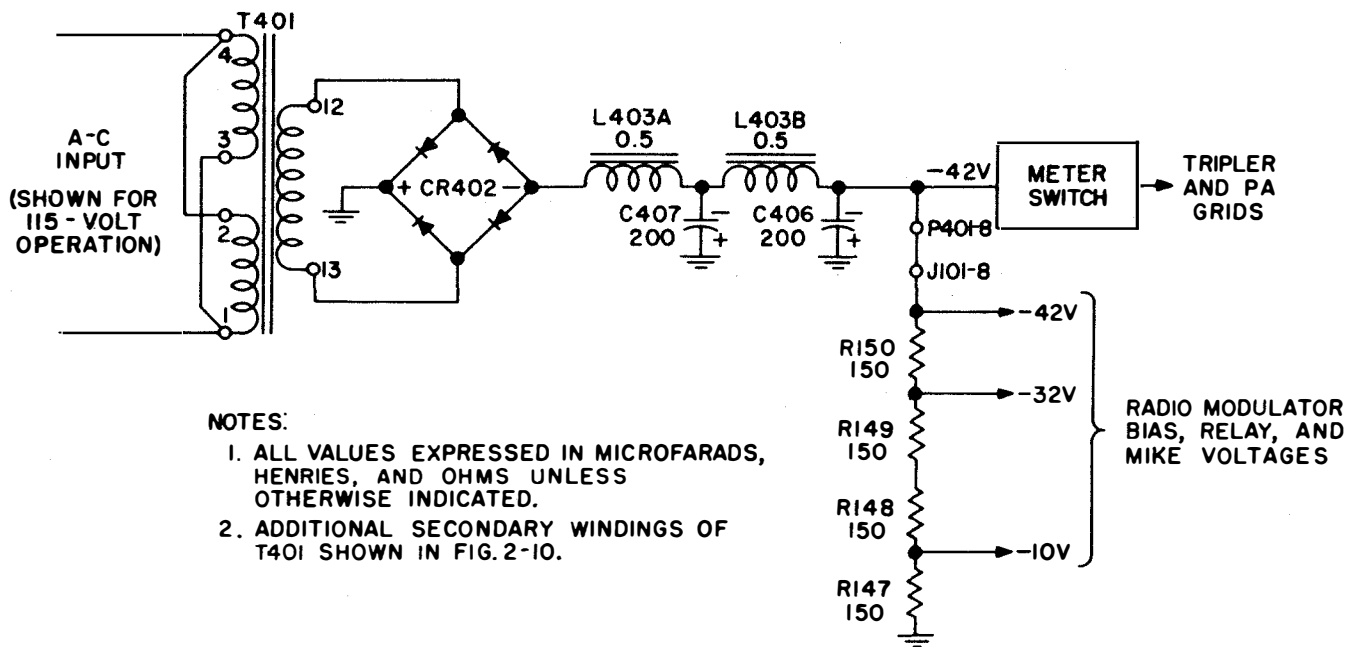

Figure 2-12. Bias Rectifier, Simplified Schematic Diagram
(4) **BIAS RECTIFIER.**—Bias rectifier CR402 is a full-wave, bridge-type selenium rectifier which operates in the same manner as CR401; see figure 2-12. It supplies a negative 42-volt output to the divider network R147, R148, R149, and R150, located in the Radio Modulator unit. All current and voltages required by the biased stages, keying relay K101, and microphone (for local operation or remote operation employing Transmitter Control Navy Type -23555) are supplied by this rectifier. Bias for the r-f tripler and PA stages is also obtained from the rectifier. The filter network for the rectifier is comprised of L403A, L403B, C407, and C406.